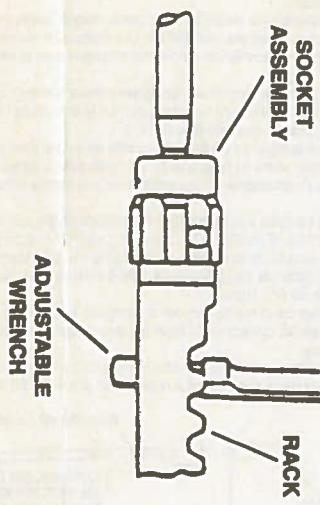

FIG.1
- o Remove old inner tie rod assembly from rack and pinion unit by rotating the inner tie rod housing while holding the steering gear rack in position with an adjustable wrench across the rack teeth. (See fig. 1). **CAUTION:** When removing or installing inner tie rod assembly, use an adjustable wrench on the flat teeth of the rack to prevent rotation and possible damage to the steering gear. Be careful not to nick the rack teeth.
3. Install new inner tie rod assembly on rack and torque to 40-500 ft.-lbs. (54-68 N·m). Remember to hold rack with an adjustable wrench to prevent it from turning. (See Fig. 1.)